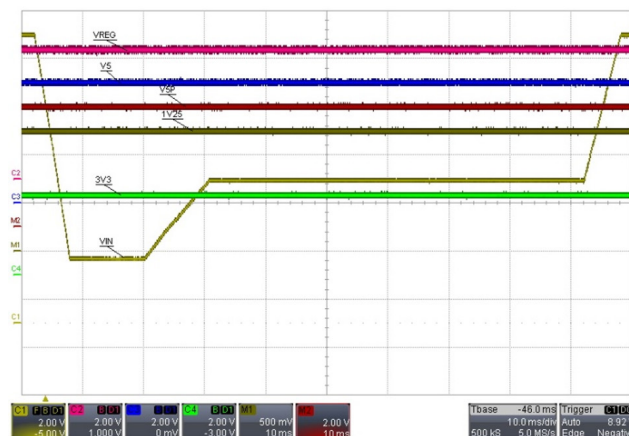
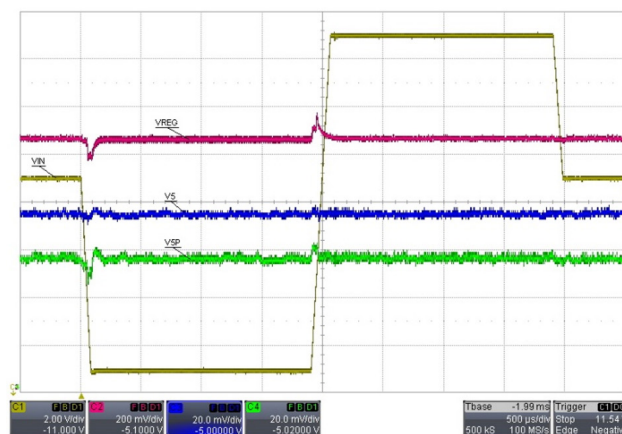
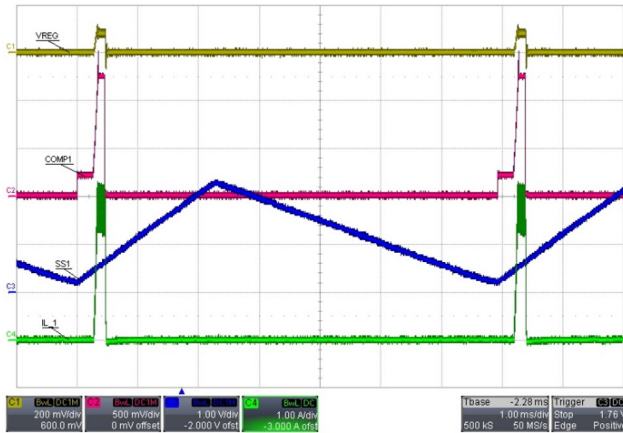

Figure 5: A4408 Buck-Boost operation at full load
Figure 6: A4408 Buck-Boost operation at full load
Figure 7: Pre-Regulator Hiccup Mode Operation when VREG is Shorted to GND and $C_{SS1} = 22$ nF
The A4408 can maintain its outputs over a wide range of input voltages and slew rates. Actual boost performance is shown in Figure 5 and Figure 6 with voltages swinging between 2.9 and 18 V, and V_{IN} slew rates ranging from 0.3 to 100V/ms.
6. Hiccup short circuit protection – lab measurement shown in Figure 7 and detailed timing diagram shown in Figure 5